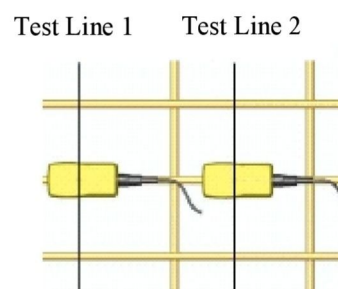

Fig. 2.8 Rebar Distribution
2) Rebar Direction (Fig. 2.8, video)
Detect two rebars location along two parallel measuring lines, the connected line between the two locations is then the direction of the rebar. (See fig. 2.8)